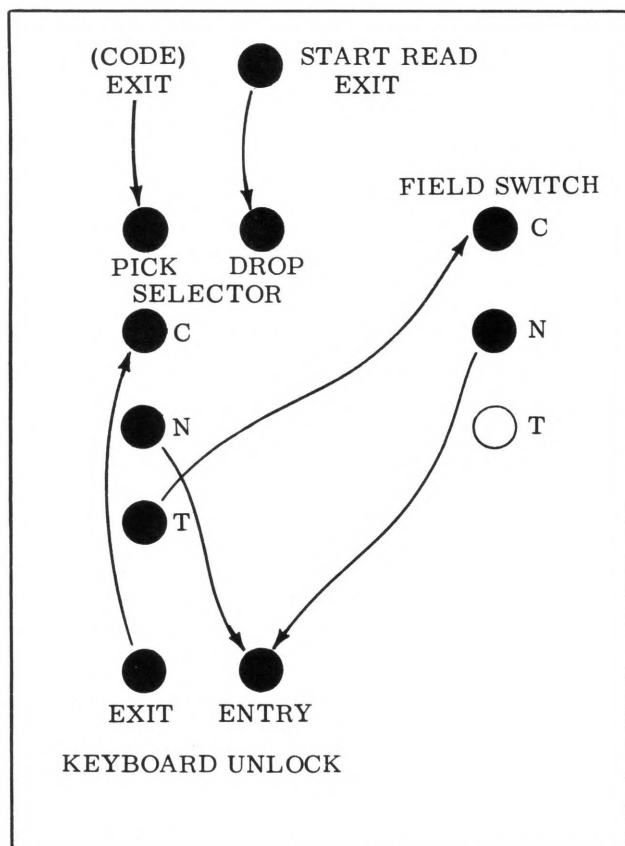

Figure 46. Keyboard Unlock Wiring Example.
KEYBOARD UNLOCK ENTRY (Z) - (Optional) Used in conjunction with the KEYBOARD UNLOCK EXIT (v), a circuit must be completed between these two for the keyboard to become unlocked. For example, figure 46 below illustrates how a disciplined entry wiring operates. Hubs are shown out of their normal position for clarity.
In figure 46, under normal conditions, the keyboard remains unlocked. However, before each disciplined field, a code is read that picks the selector. In this transferred condition, the keyboard is still unlocked as long as the selected field switch is unoperated. When an actuator, placed at the end of the disciplined entry field, contacts the field switch, the circuit is broken, and the keyboard becomes locked. At this point, the only way the keyboard can become unlocked, is for the operator to touch START